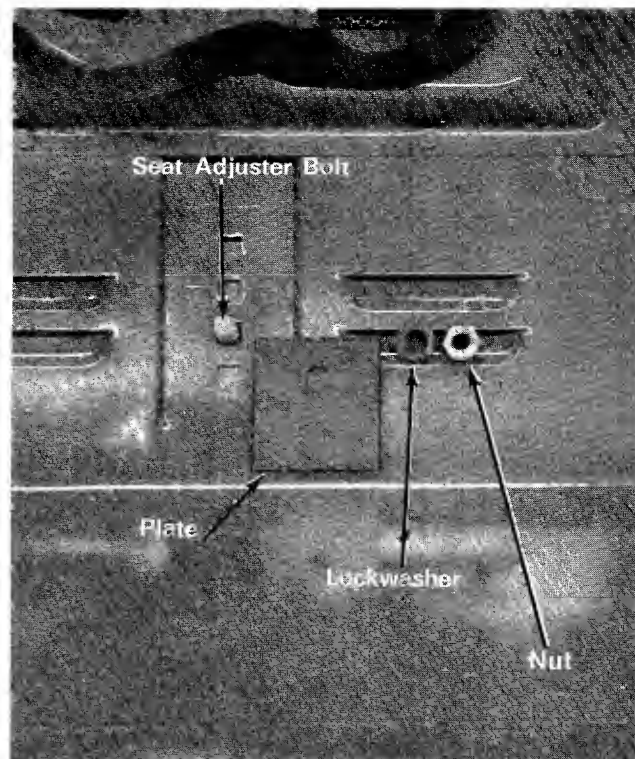

Figure 8
2. Place the bolt welded in the seat adjuster in the second hole from the front on the rear hood. (See figure 8.)